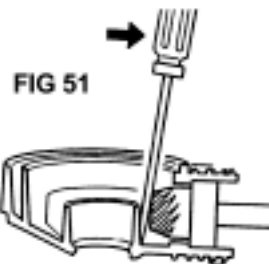

FIG 51
6. If no service tool available, use a screwdriver to lever pinion back. Turn screwdriver on end to lever further. Fig 51 & 52.